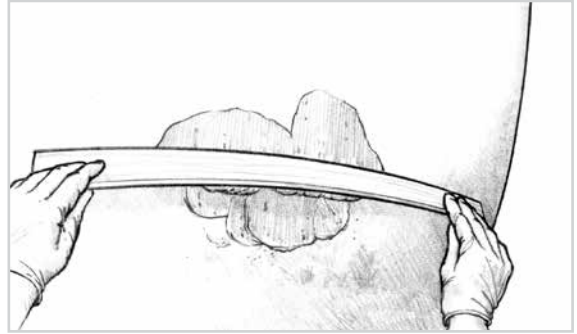

Figure 14-6 On large areas, use a batten to shape the compound after applying it with a spreader
5. Use a batten to help shape larger areas. After slightly overfilling the area with a spreader, slowly drag a batten across the filled area while bending it to the contour of the surrounding fair areas (Figure 14-6). A slight "Z" or back and forth motion of the batten can help to reduce the drag of the fairing compound. Allow the fairing compound to cure thoroughly before sanding.